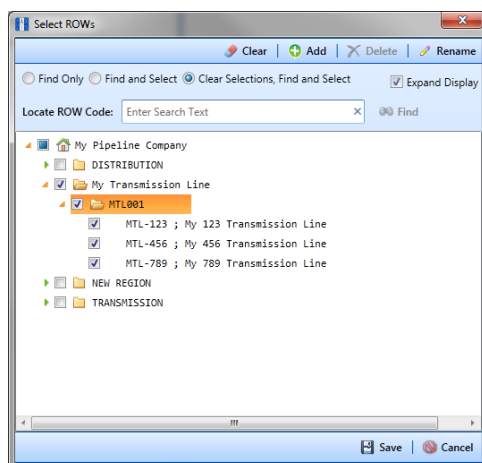

Figure 9-3. Select ROWs
- 1 Select one or more pipeline segments in the *Select ROWs* window. Choose pipeline segment(s) with facilities you want to include in the Bridge definition. Click  **Save** to close the window (Figure 9-3).